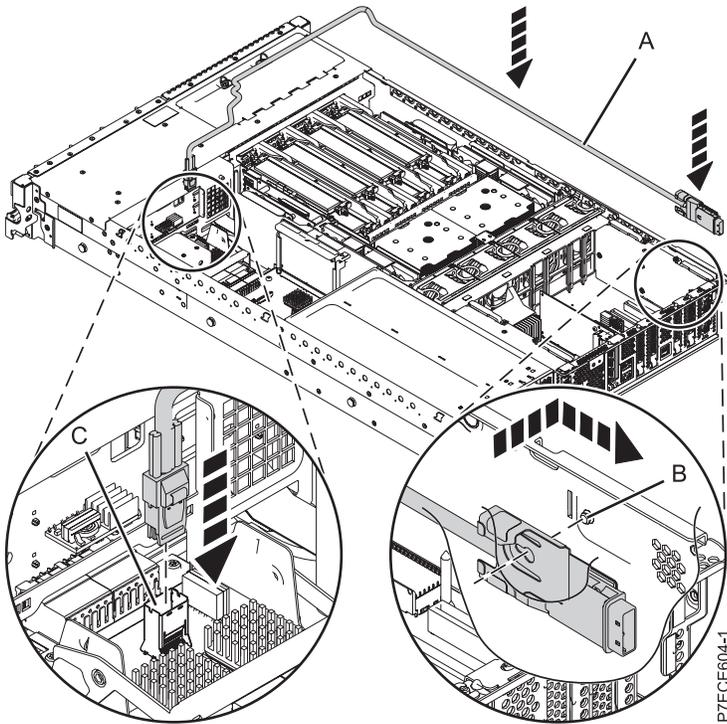

Figure 60. Replacing the SAS cable
- 1) Connect the mini-SAS connector of the SAS cable to the internal SAS connection port (C) on the storage interposer until it snaps in place. See Figure 60 on page 68.
- 2) Route the cable (A) in front of the memory riser cage, and along the channel in the side wall until the SAS port connector is near the opening on the rear of the chassis.
- 3) Align and guide the slot in the bracket of the SAS port connector (B) over the guide pin in the chassis, then slide the SAS port connector into the opening on the rear of the chassis until the tab on the bracket snaps in place.